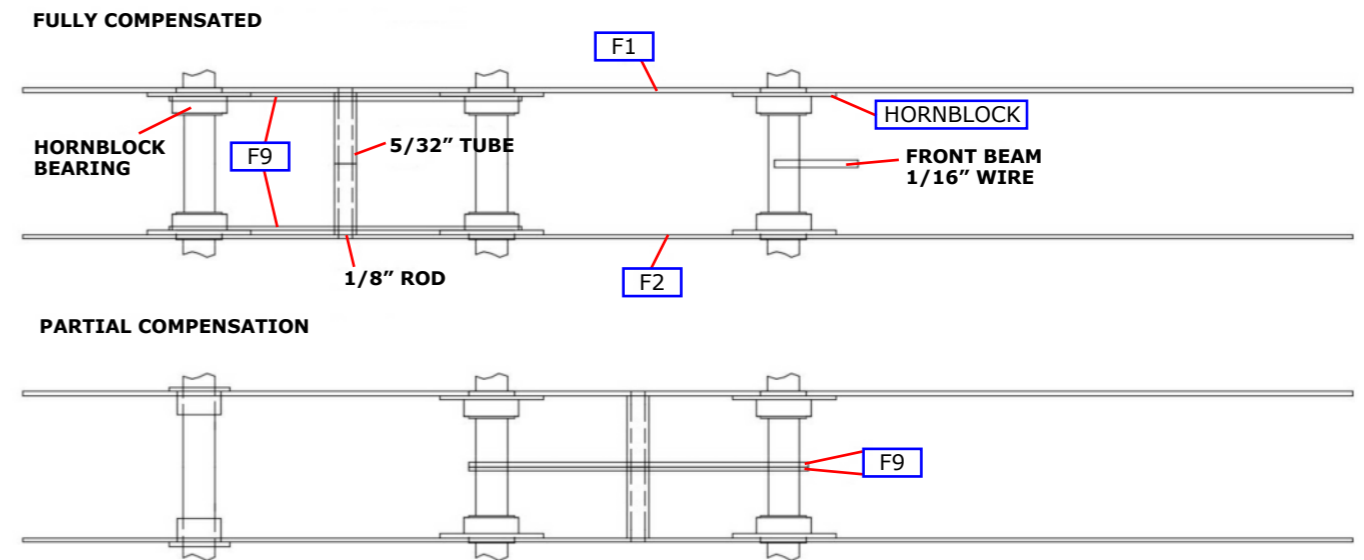

Fig 6. Frame Compensation
**Partial Compensation.** For the simpler system fix both beams (F9) centrally to a piece of 5/32" tube as shown in Fig.6.